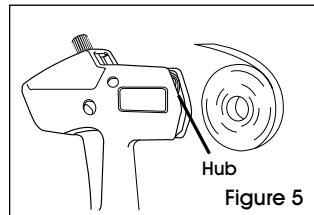

Figure 5
3. Place the label roll between the hubs and click into place. (See Figure 5)